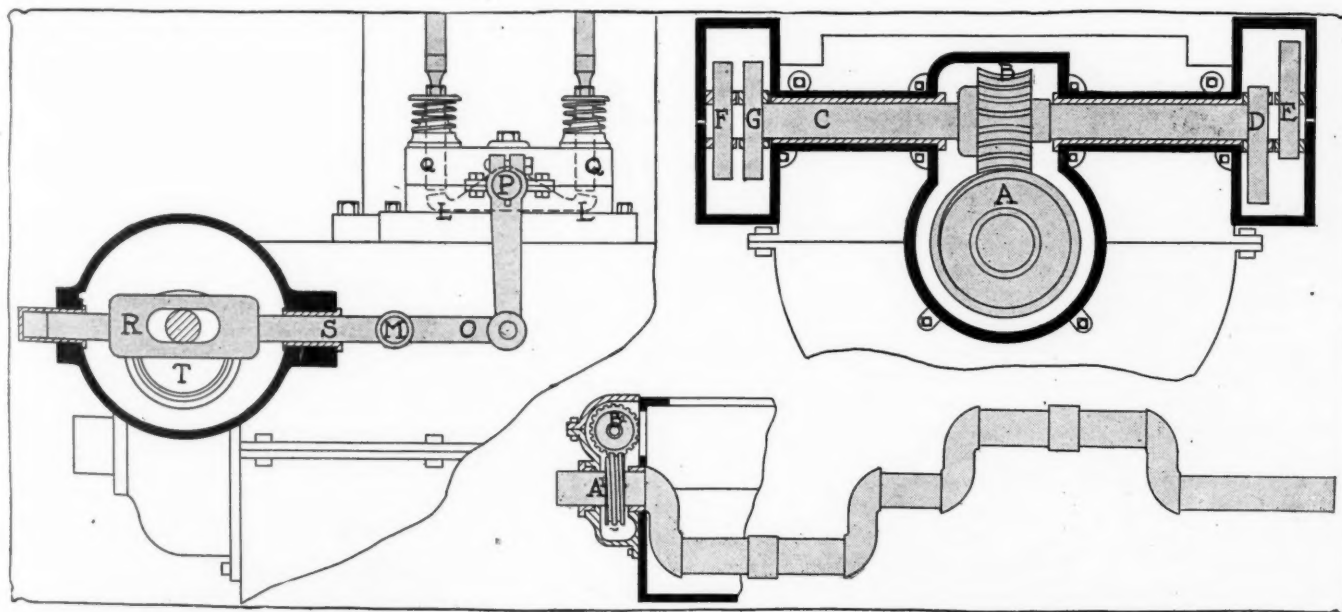

Fig. 1—Worm-driven valve action designed to silence motor. Three views are shown, end, rear and front
**EDITOR THE AUTOMOBILE:**—I have designed a valve action which is new and which I think would be silent as well as of long life. The method of actuating the valves is shown in the accompanying sketch, Fig. 1. It consists of a worm-driven transverse shaft upon which are located a series of eccentrics which are used for driving the rocker arms communicating motion to the valves.